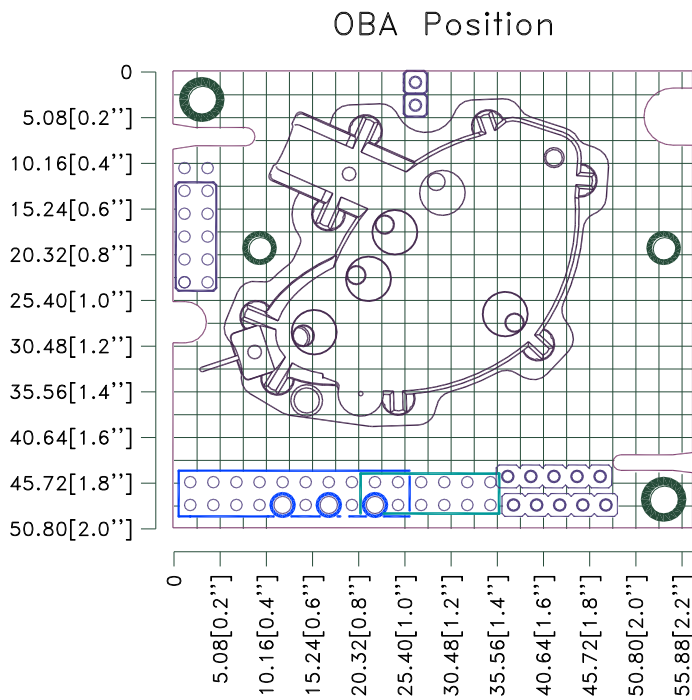

Figure 2.. CO₂ Engine® K30 STA OBA position.
The table below specifies what terminals and I/O options are available in the general **K30** platform (see also the layout picture Fig. 2). Please note, however, that in the **CO₂ Engine® K30 STA** default configuration, only OUT1, OUT2, Din1, Din2 and Status have any pre-programmed functions. These are described in the chapter “Default Configuration”.
The modules are factory calibrated and ready for use directly after power up. There are several alternative ways to connect the *CO₂ Engine[®] K30 STA* to a host system (see also figure 2):
- The two screw points in the upper left corner (having the IDC and edge connectors faced downwards, as in Figure 2) are connected to the *analogue* ground. They are the preferred choice for connection to some EMI shield, if so is required. This is normally necessary only if the application is such that large EMFs are foreseen. If this option is being used, precaution must be taken so as to exclude any power supply currents! Sensor reading instability is an indication of the need for shielding, or of improper enclosure system groundings.